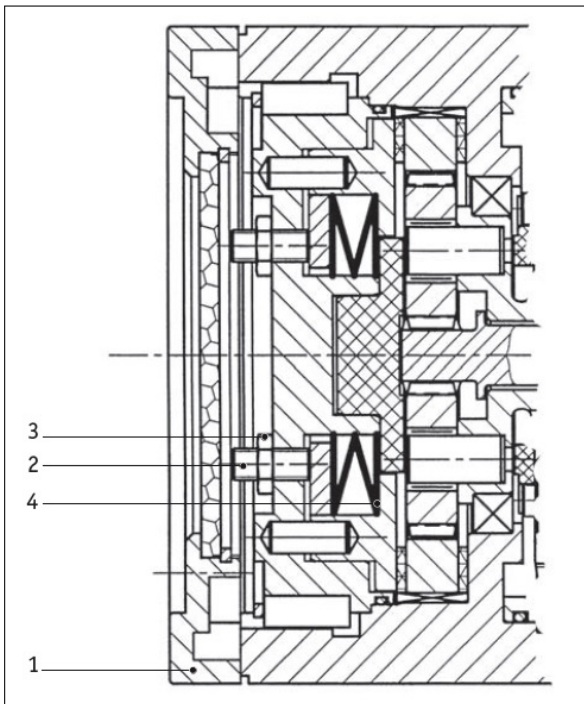

Figure 14: Adjusting overload protection
**Correct overload protection** The adjustment method described here is based on the attachment of test loads (↔ Figure 14). The overload protection is located on the gearbox.
**Re-adjust the overload protection** The adjustment method described here is based on the attachment of test loads (↔ Figure 14). The overload protection is located on the gearbox.
2. Detach the gearbox cover (1) vfrom the gearbox in order to gain access to the threaded pins (2) with lock nuts (3) located behind it.
3. Loosen the lock nuts. Screw out the threaded pins until the disc springs (4) are completely free of pre-tension.